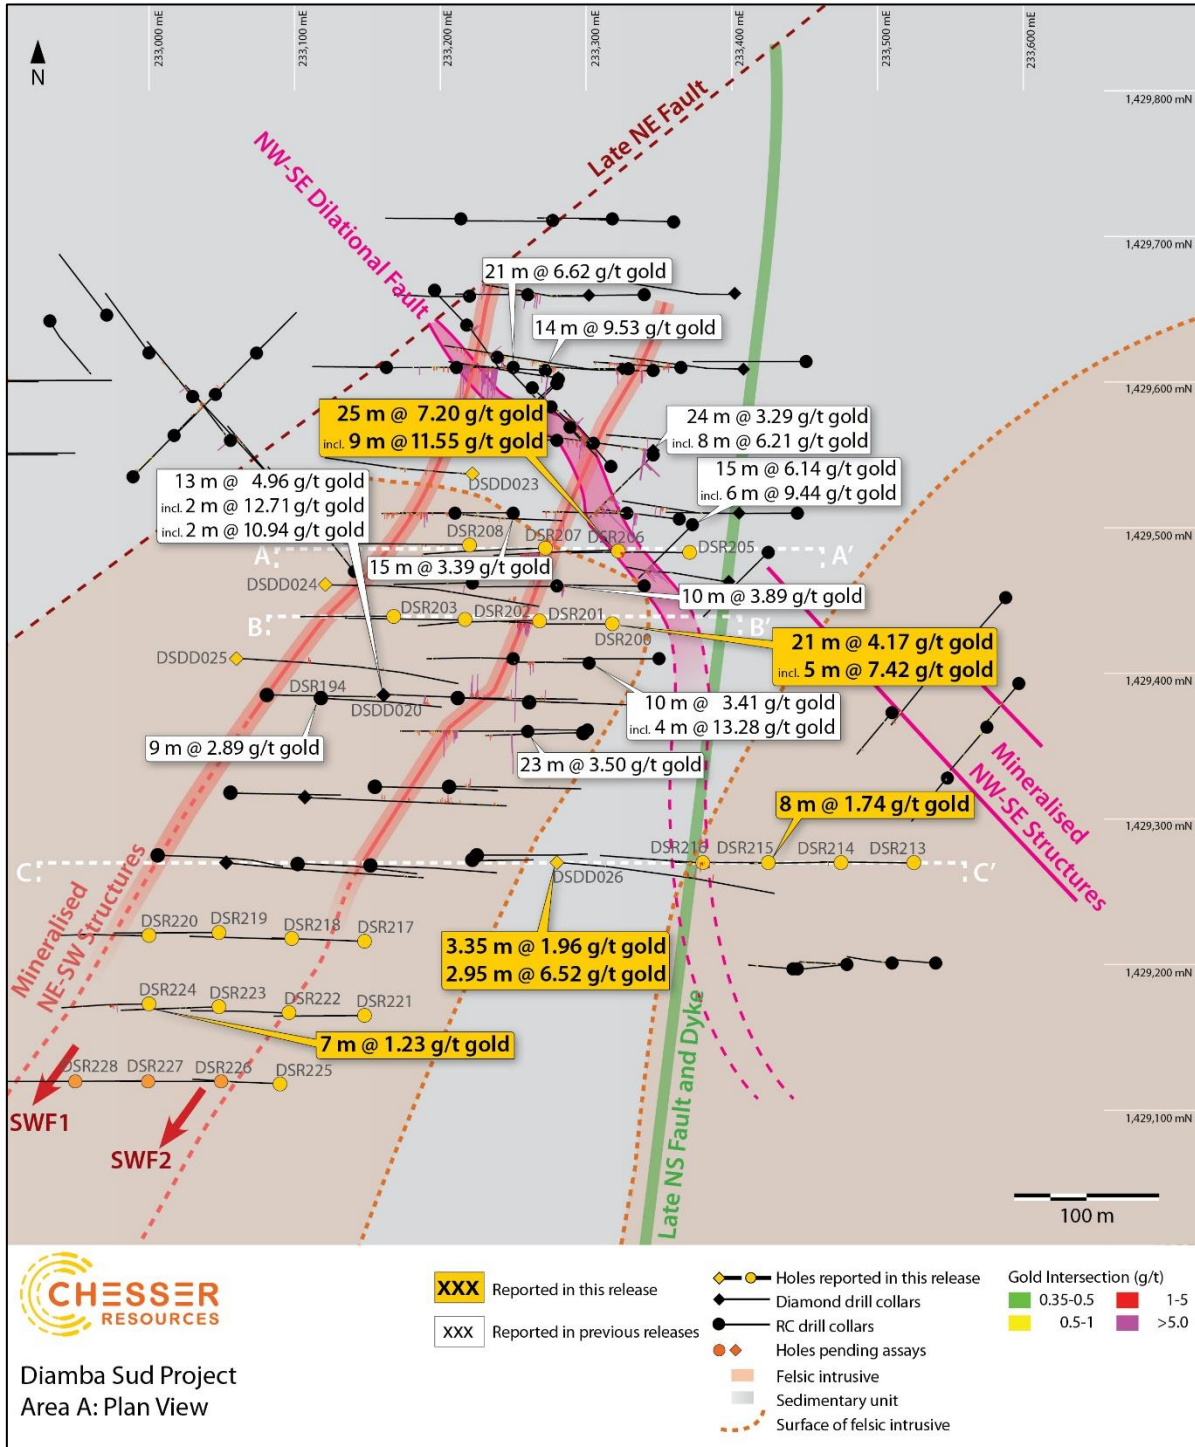
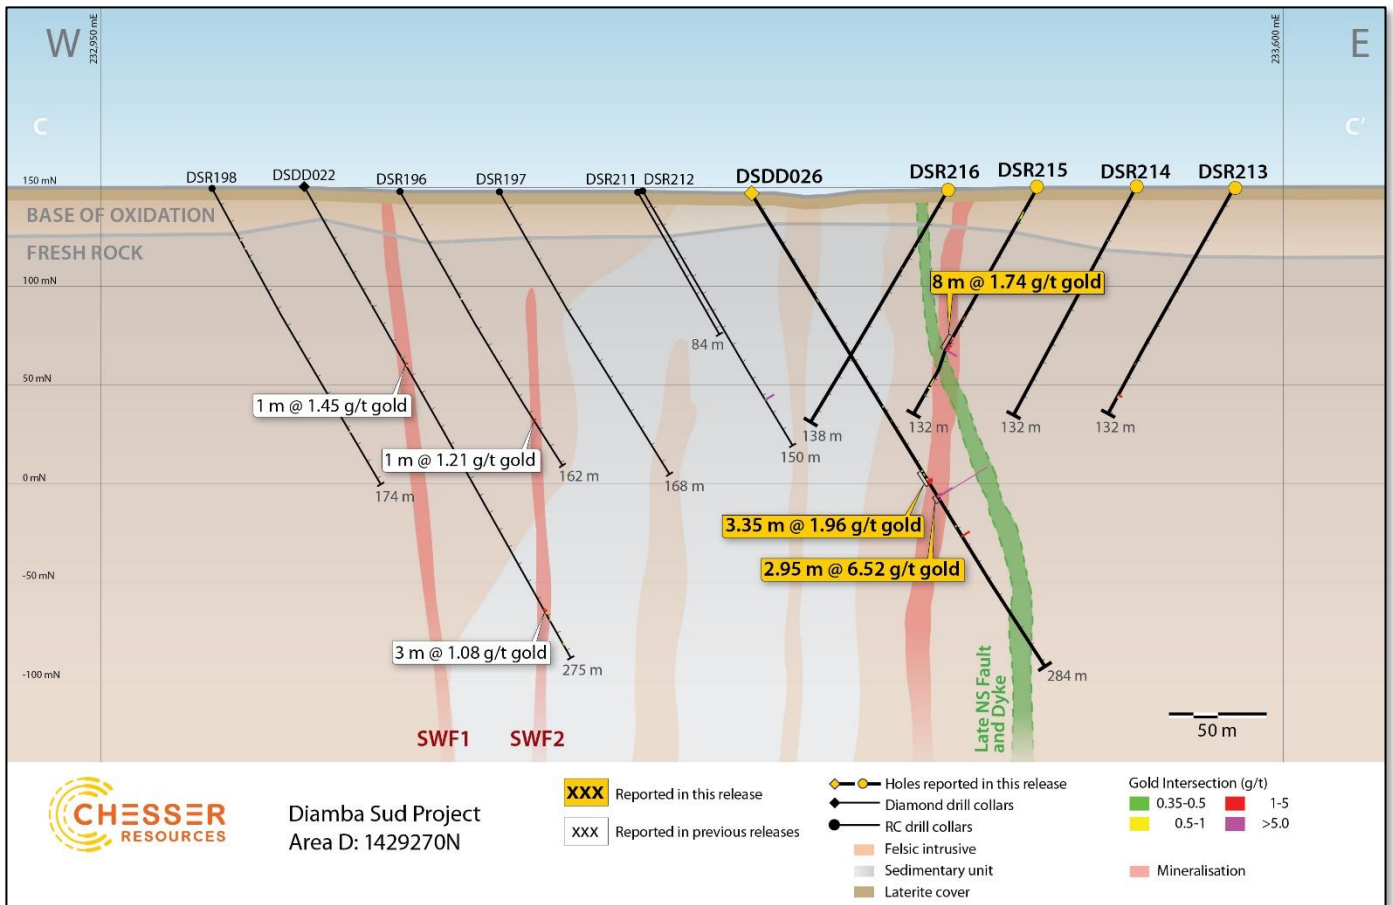

Figure 1: Area A plan view showing historical drilling and holes reported in this release with selected significant results.¹
Figure 4: Section 1429275 looking north, showing holes DSDD026 and DSR215 reported this release.
The Company is pleased to report assay results from 4 diamond holes (DD) and 21 reverse circulation (RC) holes, totalling 1,058m and 2,970m respectively completed at Area A in November and December 2020 (Figure 1).
Further high-grade wide intersections were encountered in holes **DSR206** and **DSR200** on the 485N and 435N lines respectively corresponding to the SWF2 structure (Figure 1). Hole **DSR206** intersected **25 m at 7.20 g/t gold** from 102 m, including **9 m at 11.55 g/t gold** from 104 m, and **1m at 11.30 g/t gold** from 121m (Figure 2). Hole **DSR200** returned **21 m at 4.17 g/t gold** from 113 m, including **5 m at 7.42 g/t gold** from 114 m (Figure 3).
Step-out drilling completed along strike to the south and southeast of the northwest-trending dilation fault at Area A intersected a steeply-dipping mineralised zone in holes **DSDD026** and **DSR215** (Figure 1). Hole **DSDD026** intersected **3.35 m at 1.96 g/t gold** from 170 m and **2.95 m at 6.52 g/t gold** from 180 m within a 20 m zone of strongly fractured to brecciated, altered felsic intrusive (Figure 4). The mineralised intervals were separated by a late crosscutting dyke. Hole **DSR215** intersected the same mineralised zone at a shallower depth, returning **8 m at 1.74 g/t gold** from 87 m.
These intersections are interpreted to represent the southern strike extension of the northwest-trending, dilation fault, some 200 m along strike from hole DSR167 (Figure 1). More drilling is needed to confirm this interpretation, however, these intersections are significant as they coincide with the gold auger anomaly that extends to the southeast of Area A for some 750 m to Barrick's Bambadji JV tenement boundary.
Drilling to test the southwestern extension of SWF1 intersected mostly anomalous mineralisation, with the exception of the southernmost hole **DSR224** which returned **7m at 1.23 g/t gold** from 48 m (Figure 1). Here, the structure is hosted within a felsic intrusive and the Company believes the varying presence of gold mineralisation is a function of the more competent nature of the host rock.